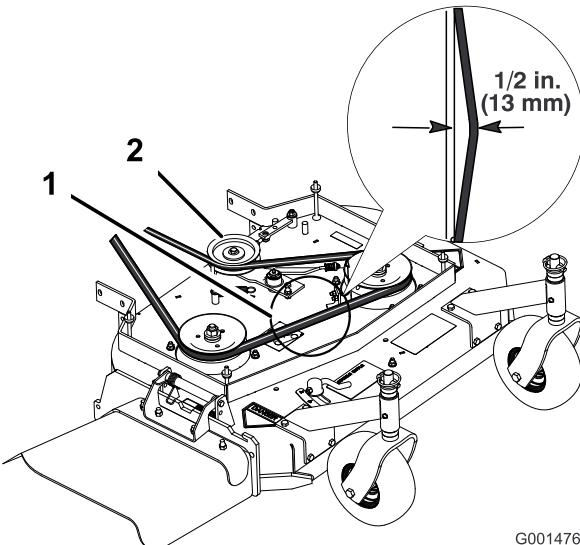

Figure 34
Note: The proper mower belt tension is 10-15 lbf. (44-67 N) with the belt deflected 1/2 inch (13 mm) halfway between the pulleys (Figure 34).
- Remove the idler pulley and the worn belt (Figure 34).